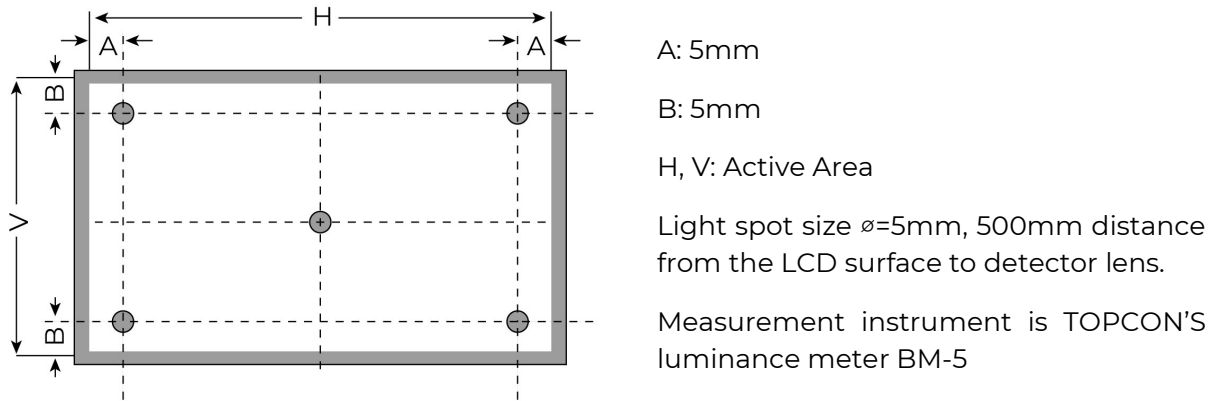

Figure 2. Measuring method for Contrast ratio, surface luminance, Luminance uniformity, CIE (x, y) chromaticity
| Contrast Ratio | Cr | | 1000 | 1200 | - | --- | FIG 2 | 1 |
| CIE (x, y) Chromaticity | Rx | $\theta=0^\circ$ $\phi=0^\circ$ $T_a=25^\circ\text{C}$ | 0.59 | 0.64 | 0.69 | - | FIG 2. | 5 |
Note 1. Contrast Ratio (CR) is defined mathematically as below, for more information see Figure 2.
Note 2. Surface luminance is the LCD surface from the surface with all pixels displaying white. For more information see Figure 2.
Note 3. The uniformity in surface luminance δ WHITE is determined by measuring luminance at each test position 1 through 5, and then dividing the minimum luminance of 5 points luminance by maximum luminance of 5 points luminance. For more information see Figure 2.